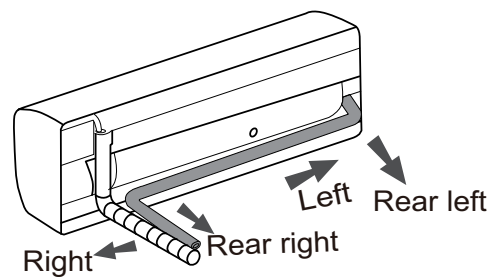

Fig. 3
- (1) The pipe can be led out in the direction of right, rear right, left, or rear left. (As shown in Fig. 3)